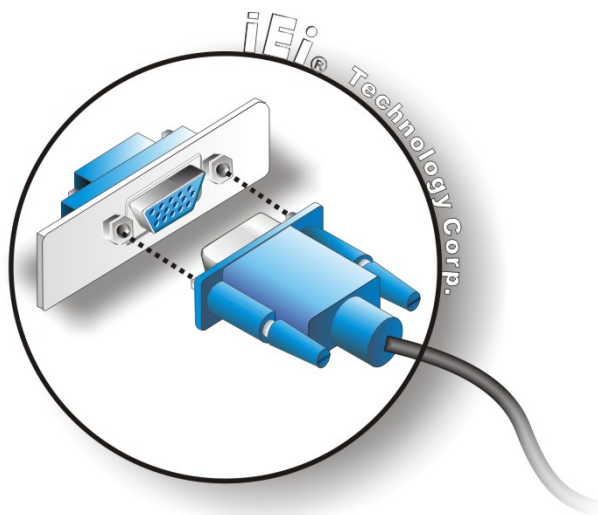

Figure 3-45: VGA Connector
- Step 3:** **Insert the VGA connector.** Once the connectors are properly aligned with the insert the male connector from the VGA screen into the female connector on the PPC-37xxA-N26. See **Figure 3-45**